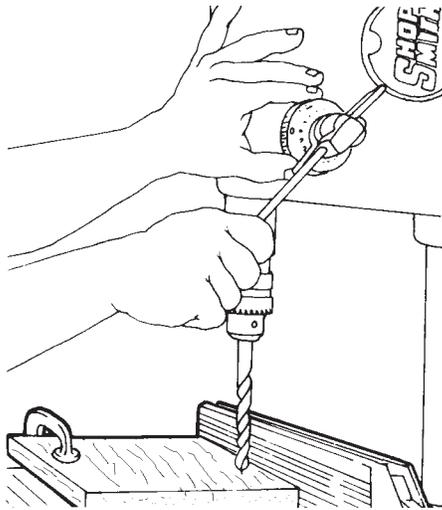

Figure D-24
- Remove the stock and extend the quill so that the cutting flutes of the drill bit touch the scrap wood. Set the depth control to  $1/8$ " and tighten the depth control lock. See Figure D-24. Then let the quill retract. Position the stock under the drill bit. Hold it against the table and rip fence. Extend the quill with the machine off to check where the drill bit will drill.